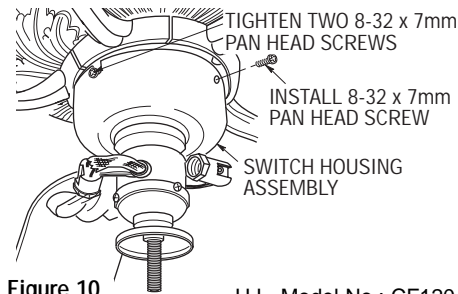

Figure 10
- 15. Position the two slots in the switch housing assembly over the two 8-32 x 7mm screws (Figure 10). Turn the switch housing assembly clockwise and tighten the two screws. Install another 8-32 x 7mm pan head screw into the remaining hole to secure the switch housing assembly.